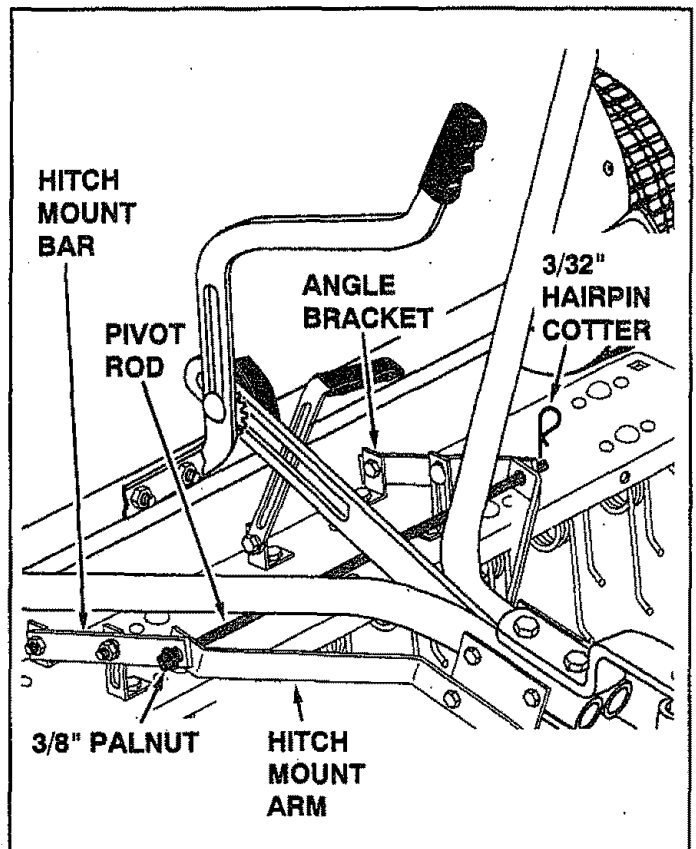

FIGURE 12
- Place the de-thatcher underneath the hitch tubes in front of the sweeper. Connect the hitch mount bars to the hitch mount arms using the pivot rod and the 3/32" hairpin cotter as shown in figure 12.